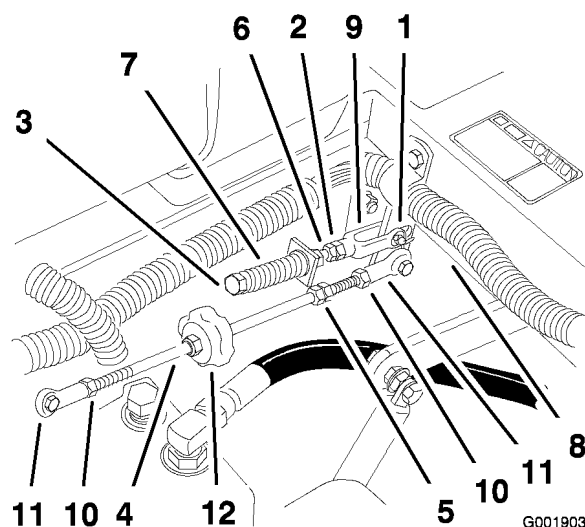

Figure 69
8. If adjustment is needed, loosen the nut and jam nut against the yoke (Figure 69).
9. Apply slight rearward pressure on the motion control lever, turn the head of the adjustment bolt in the appropriate direction until the control lever is centered in the neutral lock position (Figure 69).
10. Tighten the nut and jam nut (Figure 69).